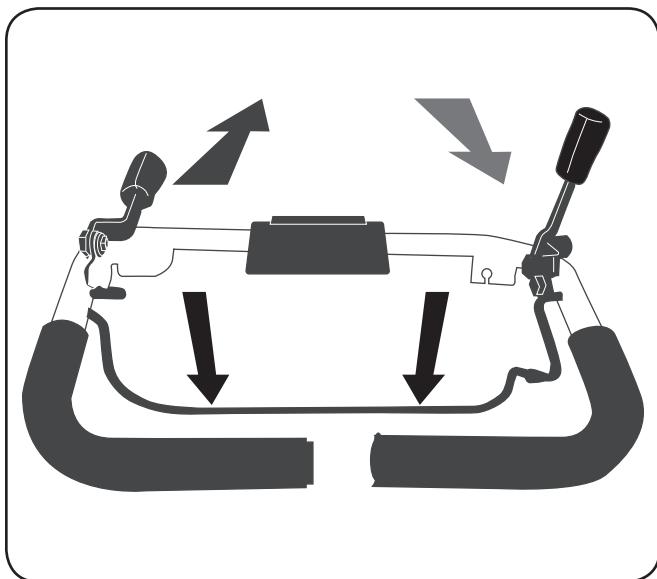

Figure 5-4
- a. Pull the reverse handle back to reverse the tines. See Figure 5-4. To stop the reverse motion of the tines, release the reverse handle.